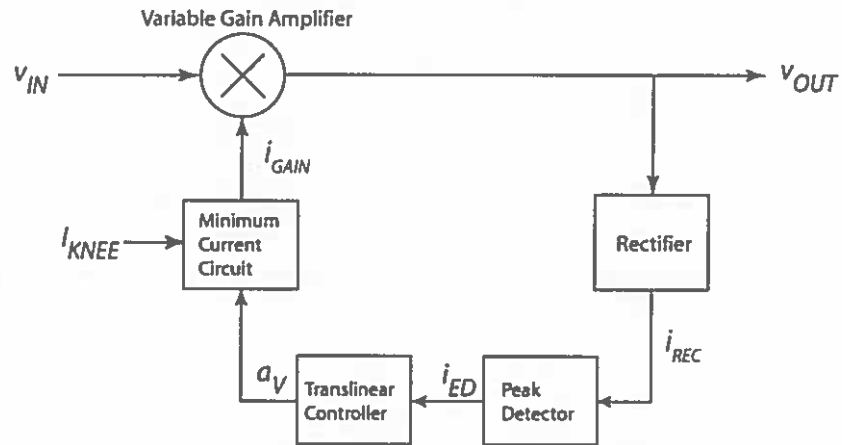

Figure 6.1: Automatic gain control system.
- b. Figure 6.1 shows an automatic gain control system (AGC) typically used in cochlear prosthesis. The rectifier uses a current conveyor to convert the voltage V_{out} to a rectified current. The signals that follow, i_{REC} , i_{ED} , a_V and i_{GAIN} are all based on current mode operation. The translinear controller implements a square root operation $y = \sqrt{x}$. Sketch the full circuit schematic of the AGC stating assumptions where necessary. The variable gain amplifier does not need a transistor level schematic.